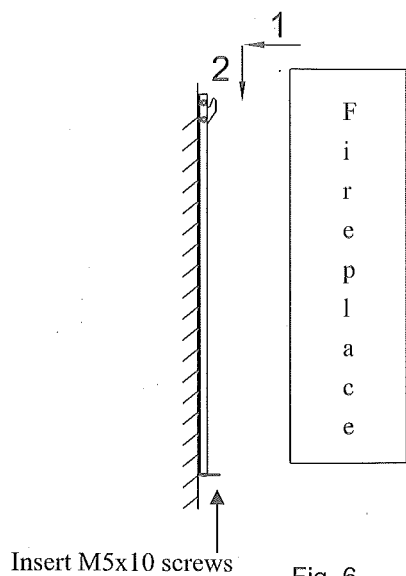

Fig. 6
6. Hang the fireplace on the hooks at top and push the fireplace into the bracket and then insert the short M5×10 screws into the bottom support tabs. (Fig. 6)